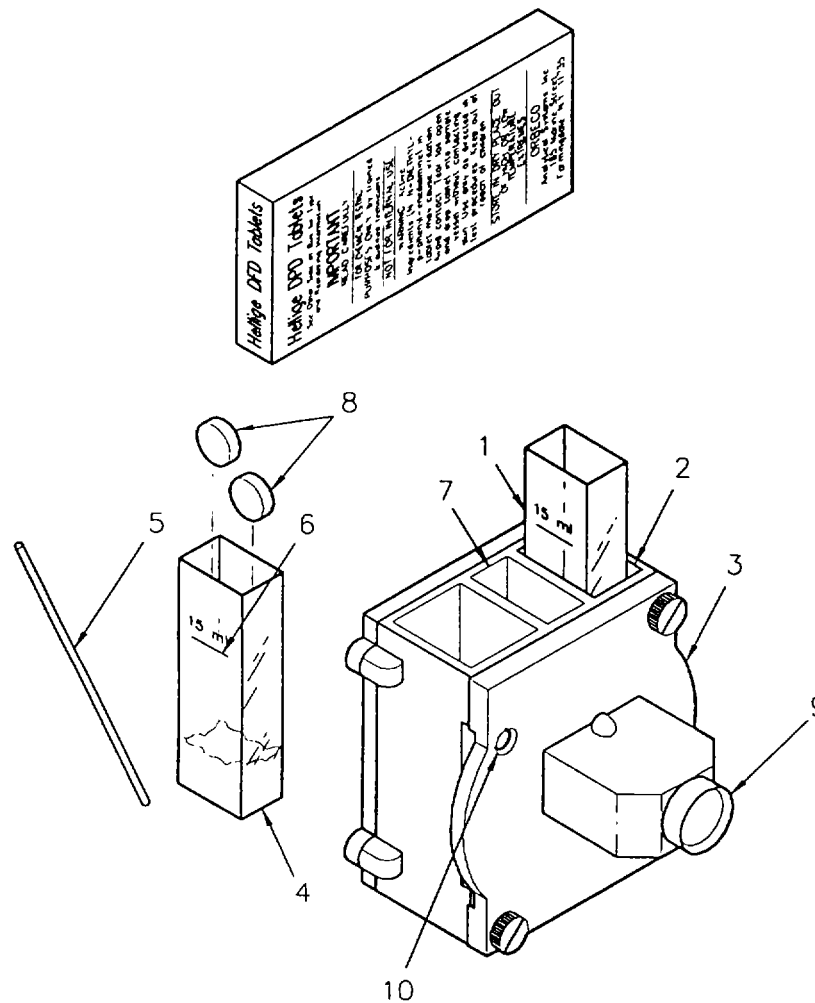

Figure 2-5. Comparator Cells
- (7) Insert this cell in the right hand cell space (2, Figure 2-5) of the comparator (3).
- (8) Collect just enough water to cover the bottom of the second cell (4).
- (9) Add two DPD No. 1 tablets to cell (4) and crush with the plastic rod (5).
- (10) Fill this cell (4) to the 15 mL mark (6) with the source water and insert it in the left hand cell space (7) of the comparator (3).